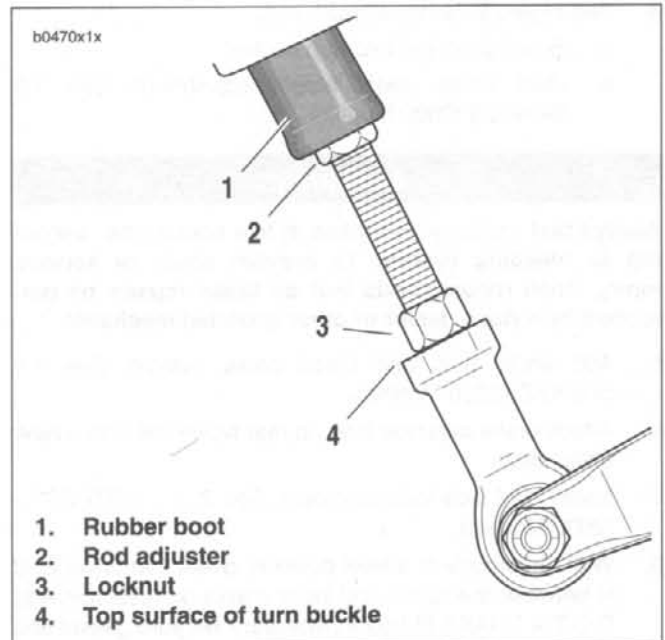
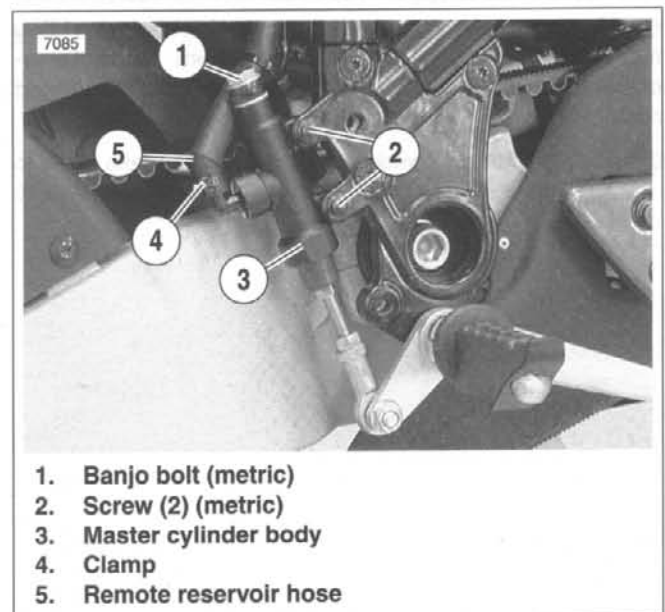

Figure 2-79. Brake Push Rod
Figure 2-80. Master Cylinder Mounting
5. See Figure 2-79. Disconnect push rod from brake pedal turn buckle (4).
- a. Spin locknut (3) away from top surface of turn buckle.
- b. Turn rod adjuster (2) to free rod from turn buckle (4).
6. See Figure 2-80. Remove screws (2) (metric) to detach master cylinder (3) from frame.
2. See Figure 2-80. Attach master cylinder (3) to frame. Apply LOCTITE THREADLOCKER 243 (blue) to both screws (2) (metric). Tighten to 8-10 ft-lbs (10.8-13.6 Nm).
4. See Figure 2-79. Install push rod.